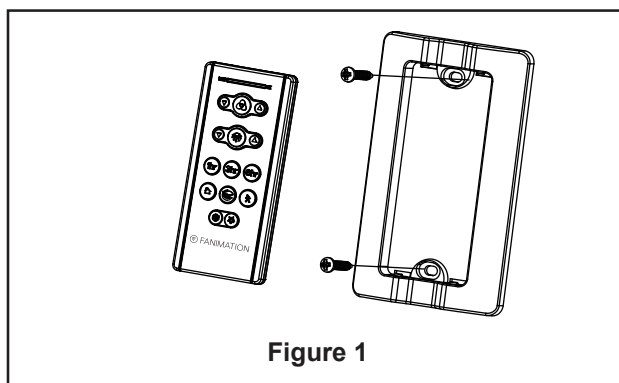

Figure 1
- ☐ 1. **Installing Wall Holder:** (Figure 1)
- ☐ 1. Open the fanSync app and tap the new fan to begin setup. (Figure 1)